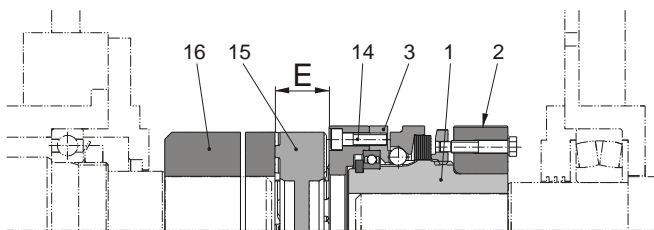

Fig. 5
- After joining both coupling hubs, do not place axial pressure on the elastomeric element (15).
- Please observe the distance dimension "E" acc. Figs. 5/6 and Table 1!